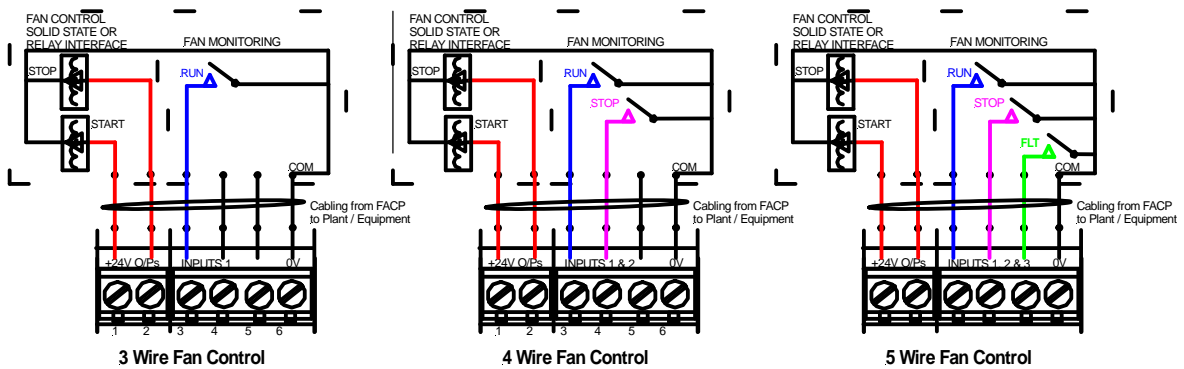

Figure 4: General Wiring For a 3, 4 and 5 Wire Setup
1. Mount the board onto the stand offs, see *Figure 4* for locations, using the 4 M3 X 8mm screws